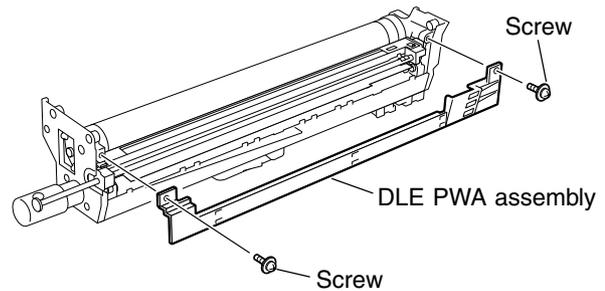

Fig. 3-4-3
4. Detach the DLE PWA assembly. (See Fig. 3-4-3.)